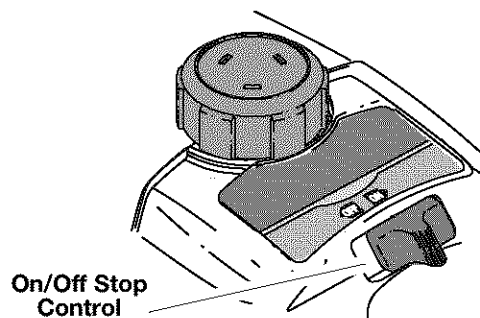

Fig. 7
1. To stop the engine move On/Off Stop Control to **OFF** (Fig. 7).
1. Move On/Off Stop Control to **ON** (Fig. 7).